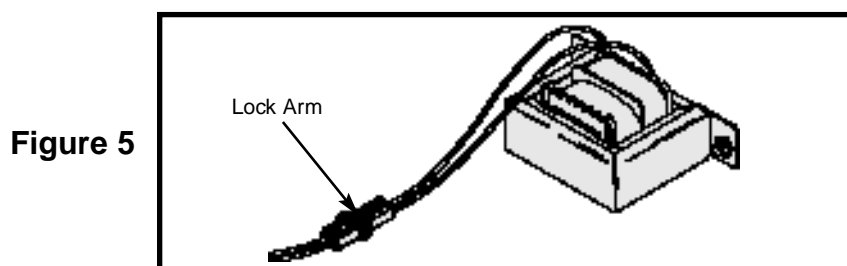

Figure 5
- ☐ Connect the male and female housing as shown in Figure 5. Note that the connector only fits together one way.